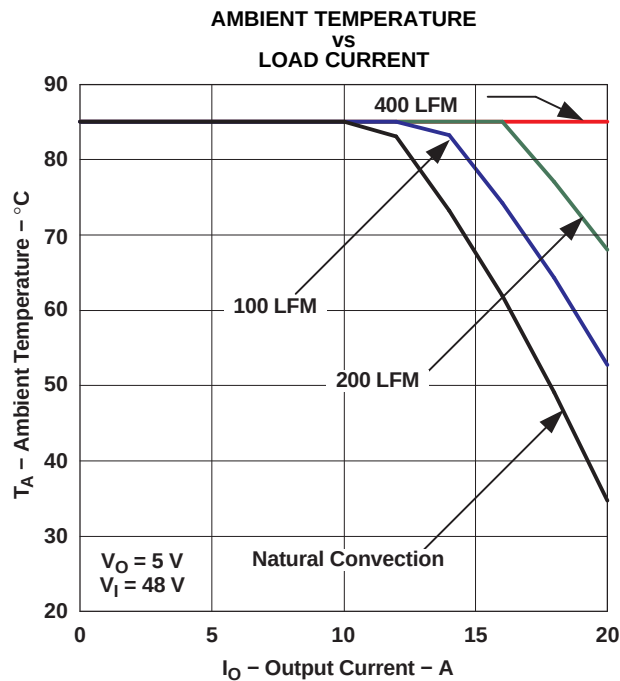

Figure 12.
- (2) The temperature derating curves represent operating conditions at which internal components are at or below manufacturer's maximum rated operating temperature. Derating limits apply to modules soldered directly to a 100-mm × 100-mm, double-sided PCB with 2 oz. copper. For surface mount packages, multiple vias (plated through holes) are required to add thermal paths around the power pins. Please refer to the mechanical specification for more information. Applies to Figure 12.